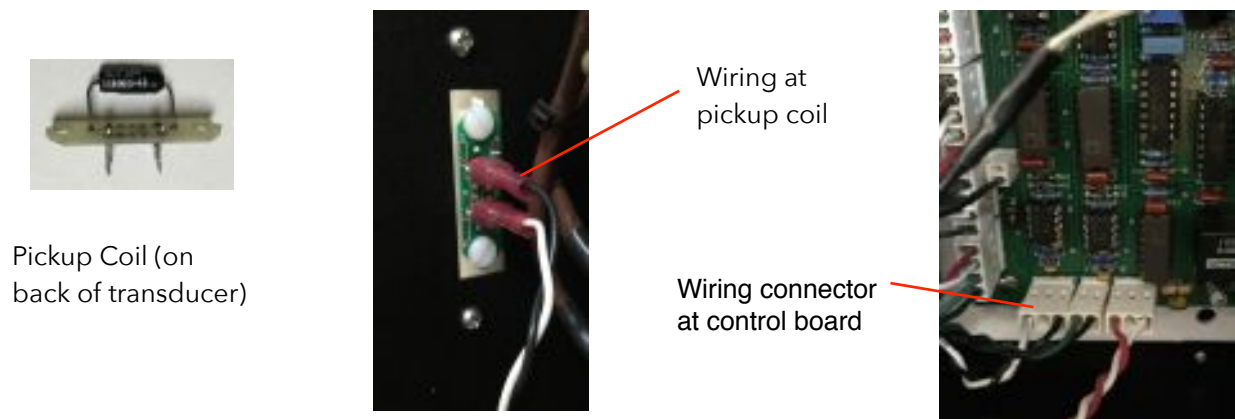

Fig. 14
5.5 The pickup coil (located on back of transducer housing) picks up the signal from the spinning paddlewheel and converts it to a low level DC voltage signal that is sent to the main control board. If it fails, no signal is produced and the yellow Coolant light will not turn off. Check that the wiring leading from the pickup coil to the main control board is connected properly. (Fig. 14) To check the pickup coil, proceed as follows: